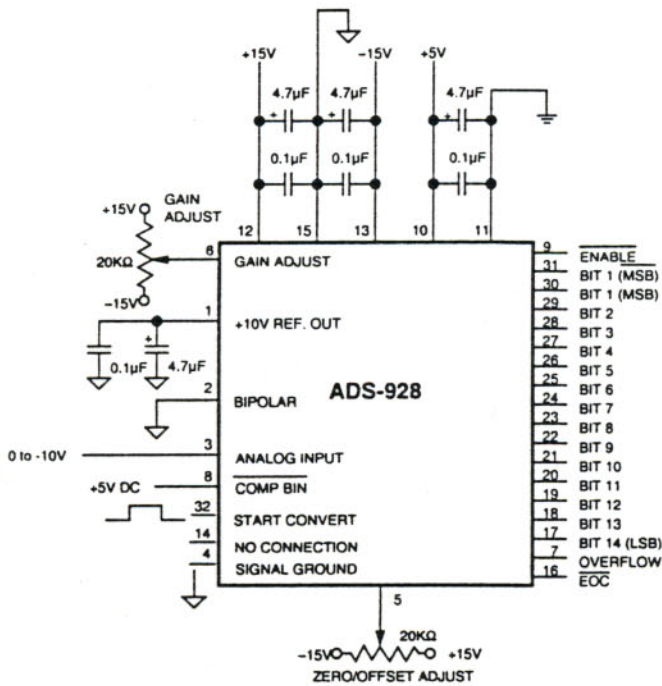

Figure 3. Typical ADS-928 Connection Diagram
1. Connect the converter per Figure 3, and Table 1 for the appropriate full-scale range (FSR). Apply a pulse of 200 nanoseconds minimum to the START CONVERT input (pin 32) at a rate of 200kHz. This rate is chosen to reduce flicker if LED's are used on the outputs for calibration purposes.